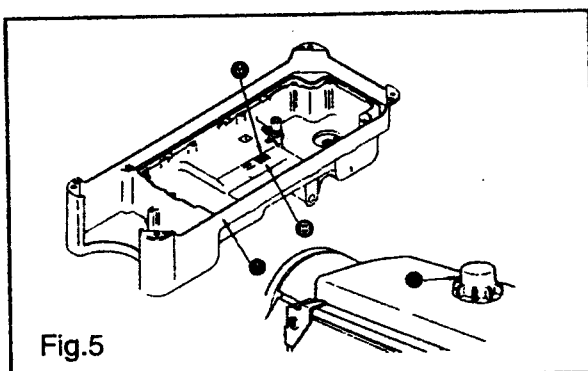
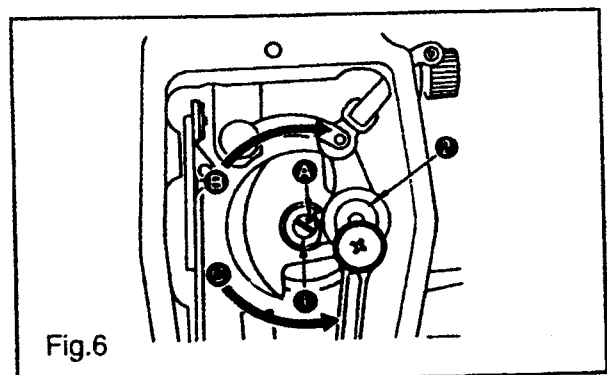

Fig.5
Fig.6
5. LUBRICATION (Fig.5, Fig.6)
1.Information on lubrication(Fig.5)
2.Adjusting the amount of oil supplied to the face plate parts (Fig.6)